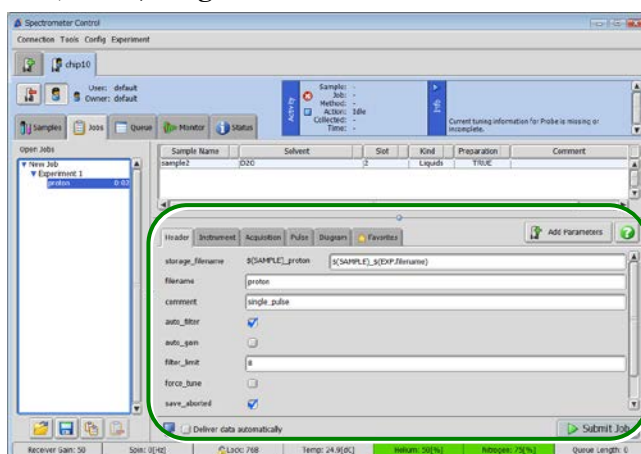

Fig. 4.3 Experiment Tool window
4. After double-clicking basic in the Open Experiment window, select the measurement mode cosy.jxp to highlight it, and click the  button. This operation opens **Experiment Tool** (Fig. 4.3) in the lower portion of the **Job** tab. This **Experiment Tool** window consists of the six sections: **Header**, **Instrument**, **Acquisition**, **Pulse**, **Diagram** and **Favorites**.